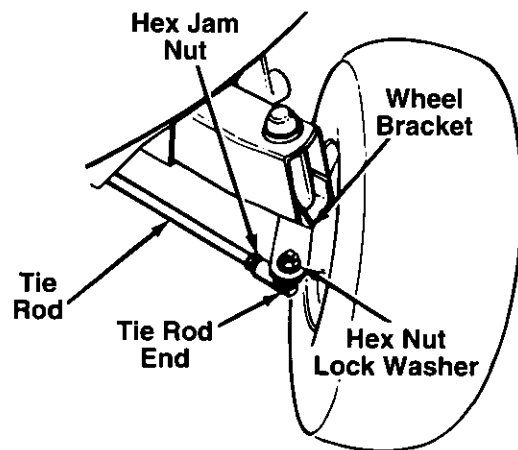

FIGURE 18.
1. Remove the hex nut and lock washer, and drop the end of the tie rod from the axle bracket. See figure 18.